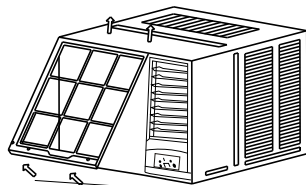

Fig. 4
- 2 Release the front panel lugs on the side of the front panel from the outer frame slots at top, middle and bottom where they meet. Grasp the left corner of the frame's underside, then loosen the frame (See Fig.4).